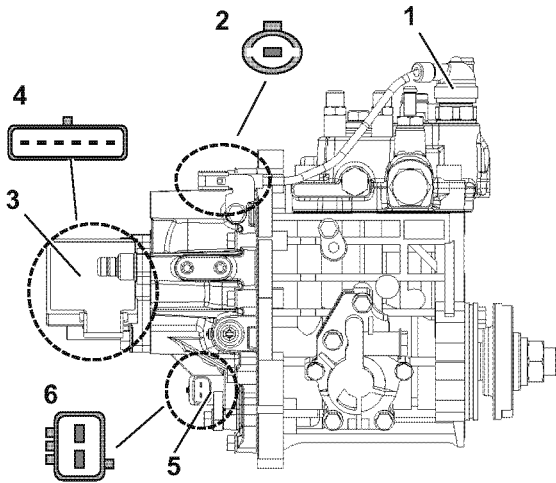

Figure 7-2
- When the cold start device is activated, you may notice a slight increase in the exhaust smoke of the engine during engine warm-up. Electronically controlled engines 3TNV84T-Z, 3TNV88-Z, 4TNV84T-Z, 4TNV94L-Z, 4TNV98-Z, 4TNV98-E, 4TNV98-A, and 4TNV98T-Z use a cold start device (CSD) that consists of a fuel injection pump complete with a solenoid valve (1, **Figure 7-2**).
Electronically controlled engines 3TNV84T-Z, 3TNV88-Z, 4TNV84T-Z, 4TNV94L-Z, 4TNV98-Z, 4TNV98-E, 4TNV98-A, and 4TNV98T-Z are equipped with an electronically controlled governor called "Eco Governor". Combined with the rack actuator (3, **Figure 7-2**), engine speed sensor (5, **Figure 7-2**), and other parts, the electronically controlled governor communicates with the engine controller (E-ECU), whereby the engine speed and fuel injection rate are controlled.